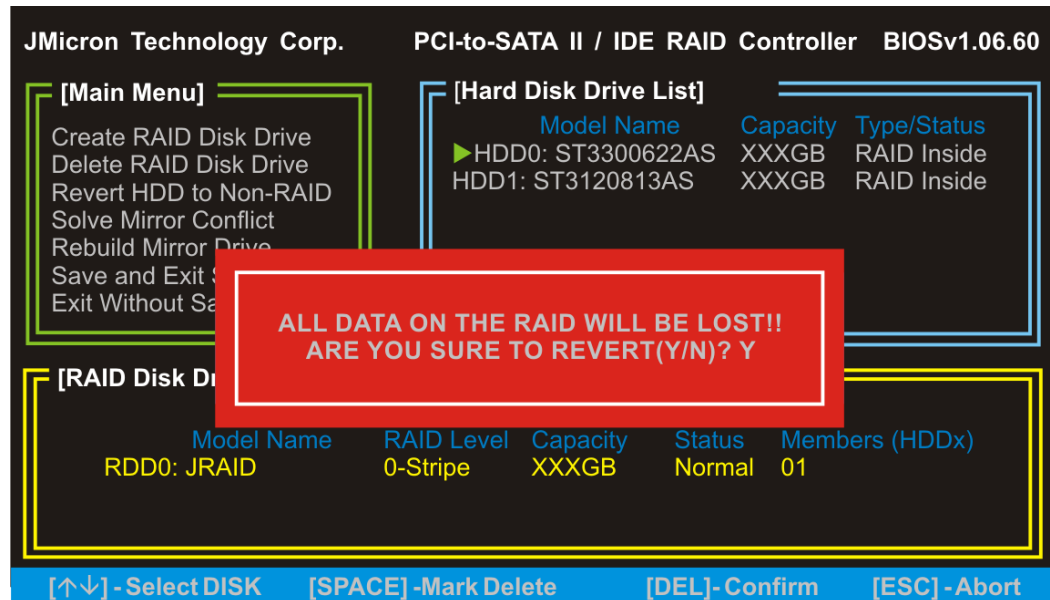

Figure D-15: Confirm revert HDD to non-RAID
Step 2: A confirmation message appears (**Figure D-15**). Press **Y** to confirm the action.